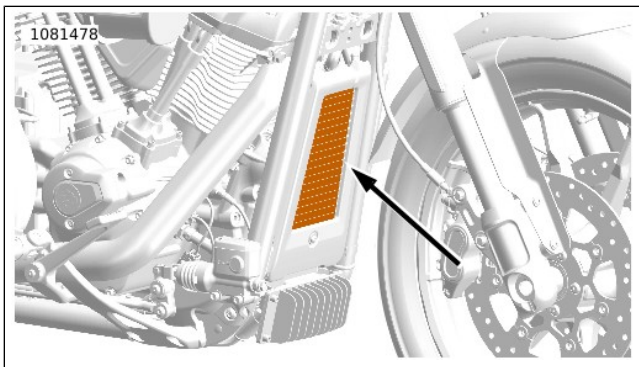

**Figure 46. Lubricating New Oil Filter Gasket**
7. See Figure 46. Install **new** oil filter.